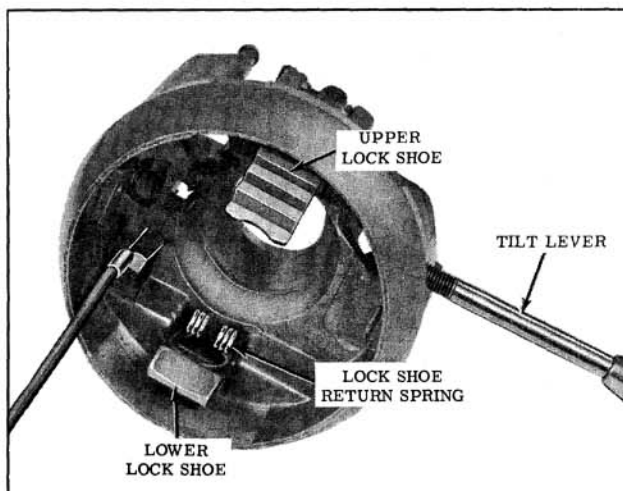

Fig. 8-113 Actuator Housing (Bottom View)
- a. Place the actuator housing on the bench with the lower side up and the turn signal and tilt lever openings on the right side. (Fig. 8-113)